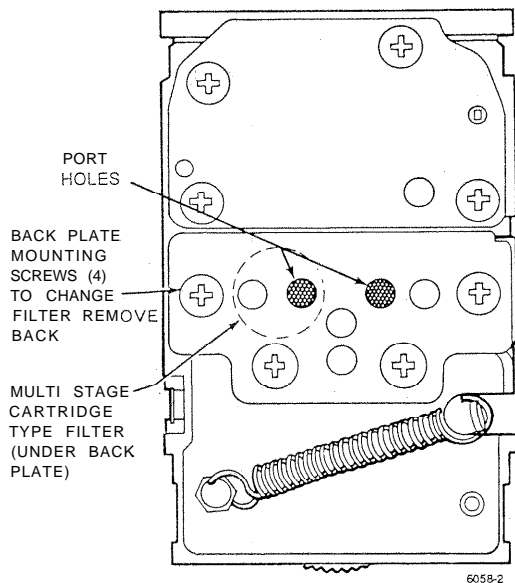

Fig. 6. Humidistat Back View.
- 4 Align the port holes (Fig. 6) on the back of the replacement Humidistat with the air connections on the existing airhead.